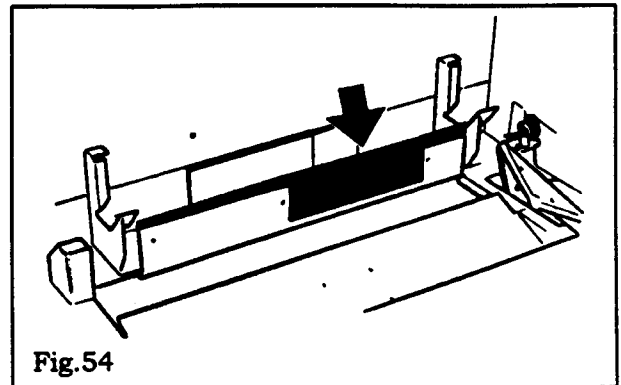

Fig.54
10.14 Remove the rear burner tube and fit the burner baffle plate **behind** the rear burner air deflector with three thread cutting screws supplied (Figure 54). The baffle plate is supplied with kit #819ARK. Refit the rear burner